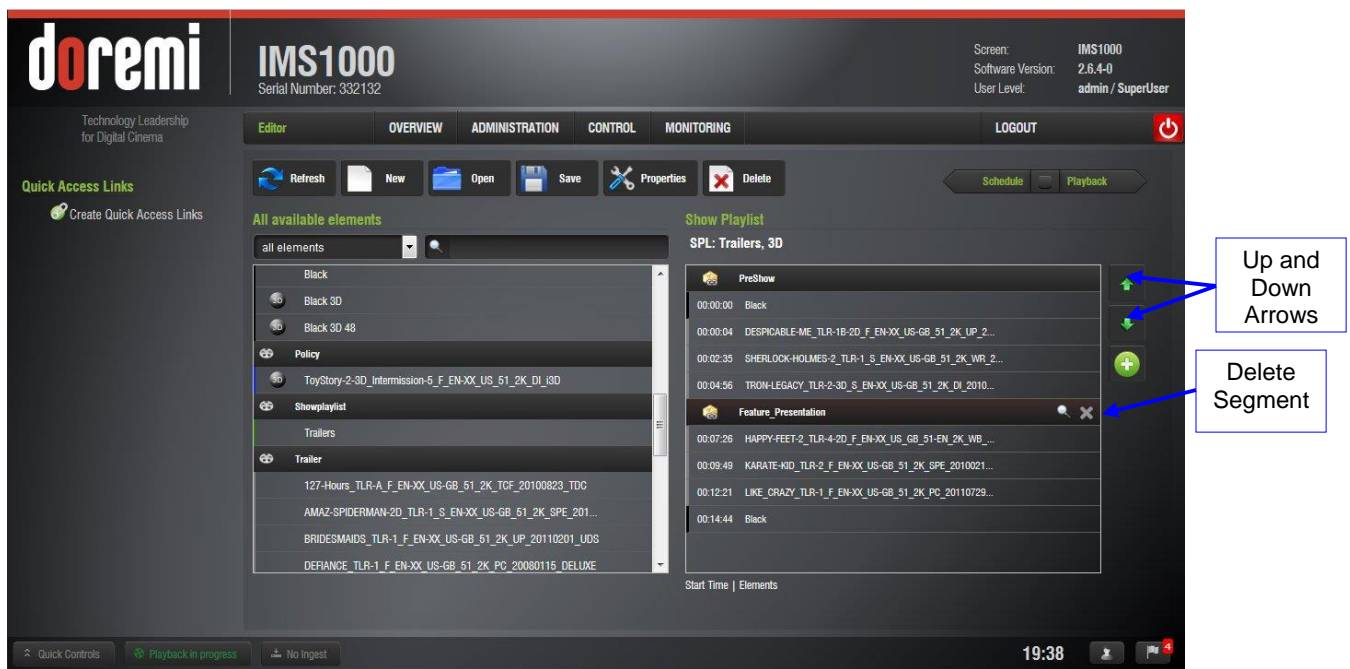

Figure 244: Segments Added
- Use the up and down arrows to rearrange the segment (Figure 244).
- Several segments can be added into a SPL (Figure 244).
- To delete the segment, highlight it and click on the delete button to the right (Figure 244).